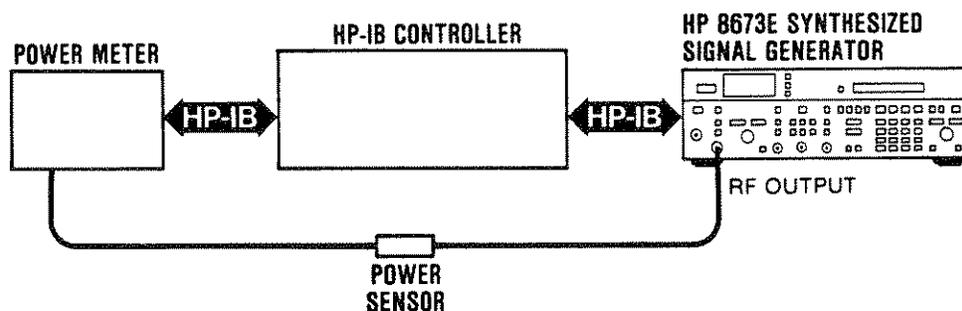

Figure 5-23. Power Clamp Adjustment Test Setup
2. Connect the equipment as shown in Figure 5-23. Ensure that the Signal Generator and Power Meter HP-IB addresses are set to 19 and 22 respectively.